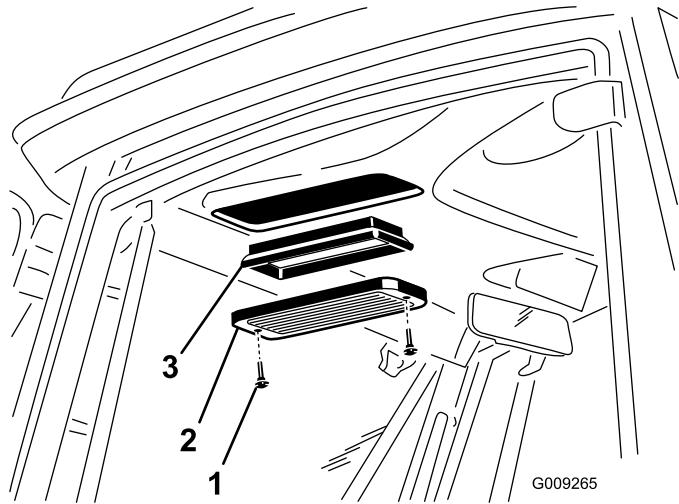

Figure 99
1. Remove the thumb screws and grates from over both the in-cabin and rear cabin air filters (Figure 99).